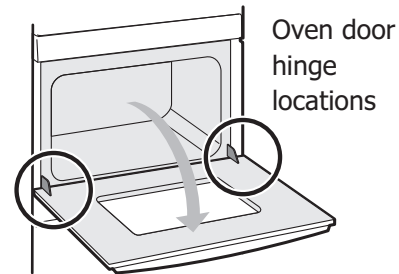

Figure 16: Door hinge location
3. Fully open the oven door, horizontal with floor (Figure 16).